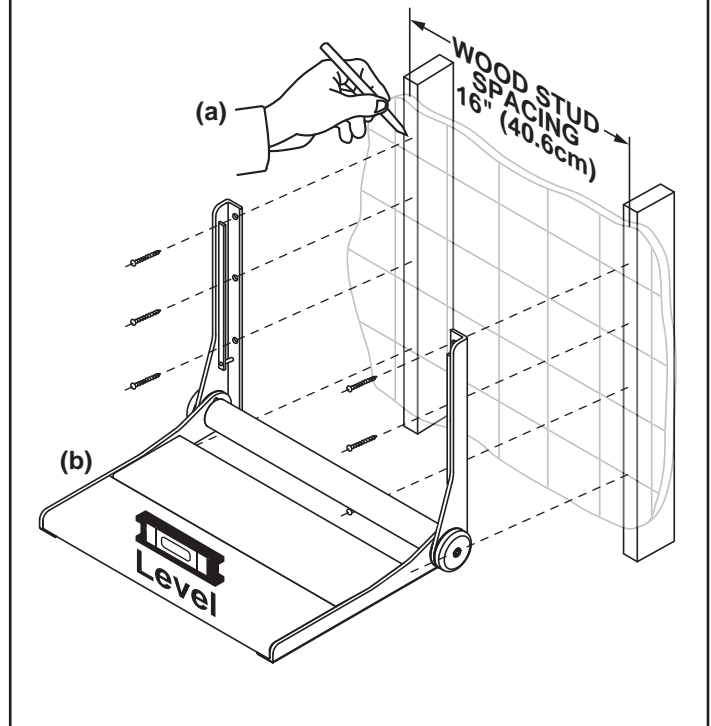

Figure 2.
A2. Notch the tile accurately with a center punch as shown in **Figure 2**. **NOTE:** A light tap is all that is required for punch to make notch.
3. Fabricate a support frame structure from suitable wood pieces as shown in **Figure 2**. Support frame width (D) should fit snugly within wall studs. Support frame height (E) should be from 24-32" (61-81cm) high or more, depending on material and stiffness of wall studs. Locate top cross member (F) to position in line with top hole on the wall bracket when seat is at install height (H). Lower cross member (G) should be spaced at $C = 14.125"$ (37.465cm) center to center from top cross member (see Page 4 for dimensions of 2 center cross members). Use a generous quantity of wood screws and glue to hold the support frame structure together as shown. See alternative to support frame as shown in **Figure 3**.